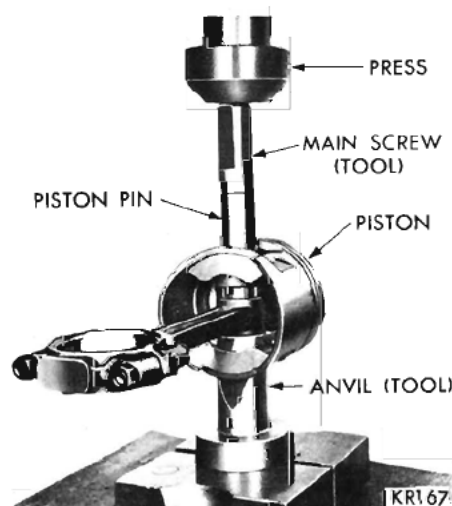

Fig. 109—Installing Piston Pin
(6) Position the connection rod over the pilot which extends through the piston hole.
(7) Install the main screw and piston pin in the piston, as shown in Figure 109.
(8) Install the nut on puller screw to hold assembly together. Place assembly on a press, as shown in Figure 109.
(9) Press in the piston pin until the piston pin bottoms on the pilot properly positioning the pin in the